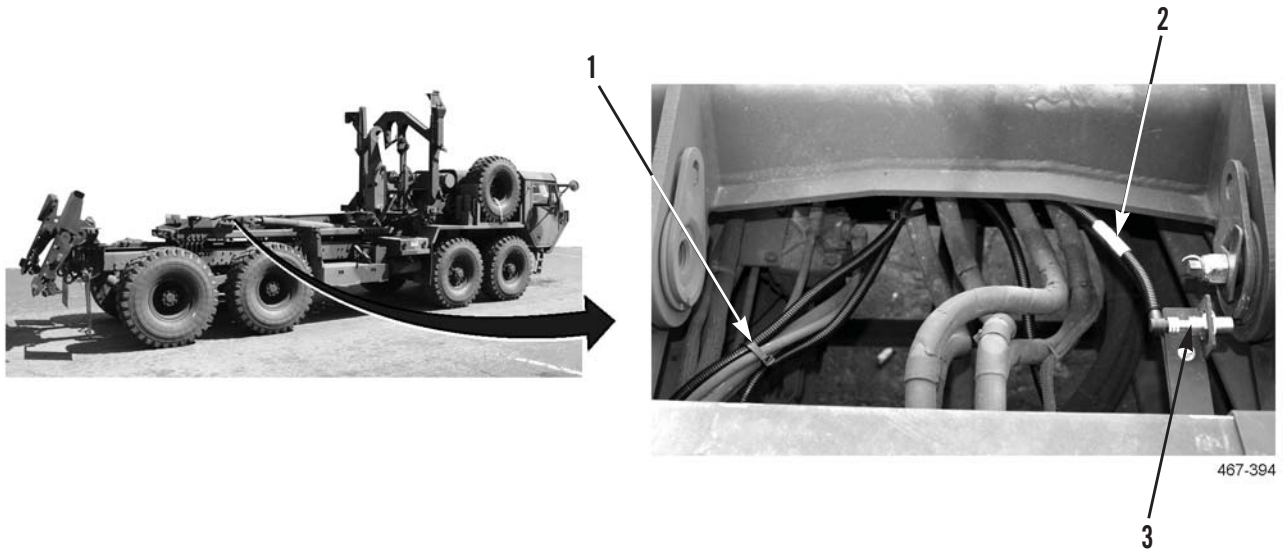

Figure 4. Middle Frame Sensor Harness Removal.
1. Disconnect middle frame sensor harness (Figure 4, Item 2) from middle frame sensor (Figure 4, Item 3).
2. Remove and discard tiedown straps (Figure 4, Item 1) as required.